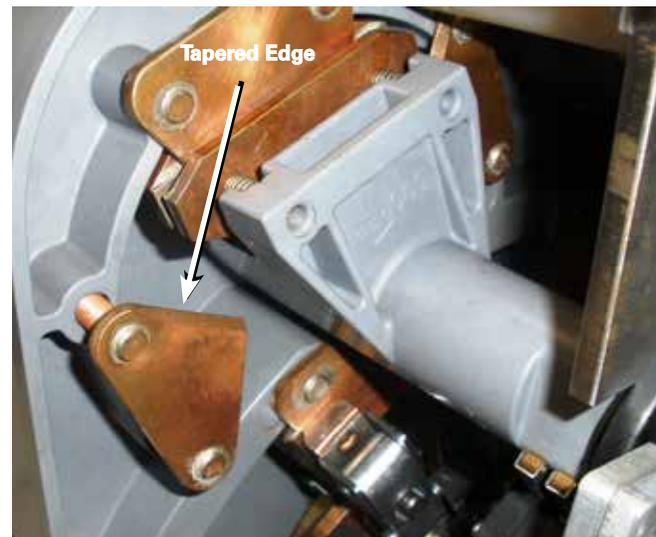

Figure 5. VL reversing stationary contact removal.
4. Remove the VL reversing stationary contact from the contact assembly panel. See Figure 5.
5. Install the new VL reversing stationary contact into the mounting holes in the contact assembly board. Make sure when installing the contact that the leading tapered edge is positioned toward the reversing neutral stationary contact. If the tapered edge is facing in the wrong direction, the stationary VR contact is being used. See Figure 5.